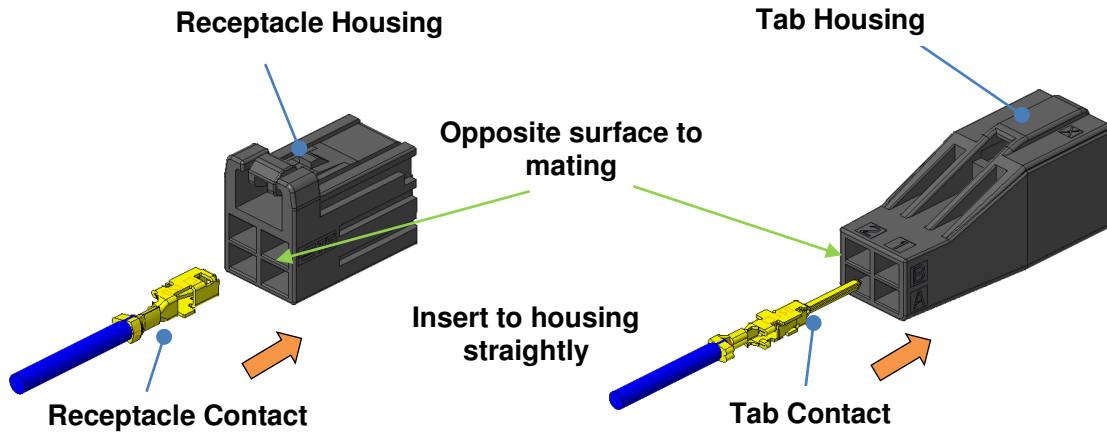

Figure.6 Contact Insertion
③ Insert crimped contact to housing. (Refer to Figure.6)